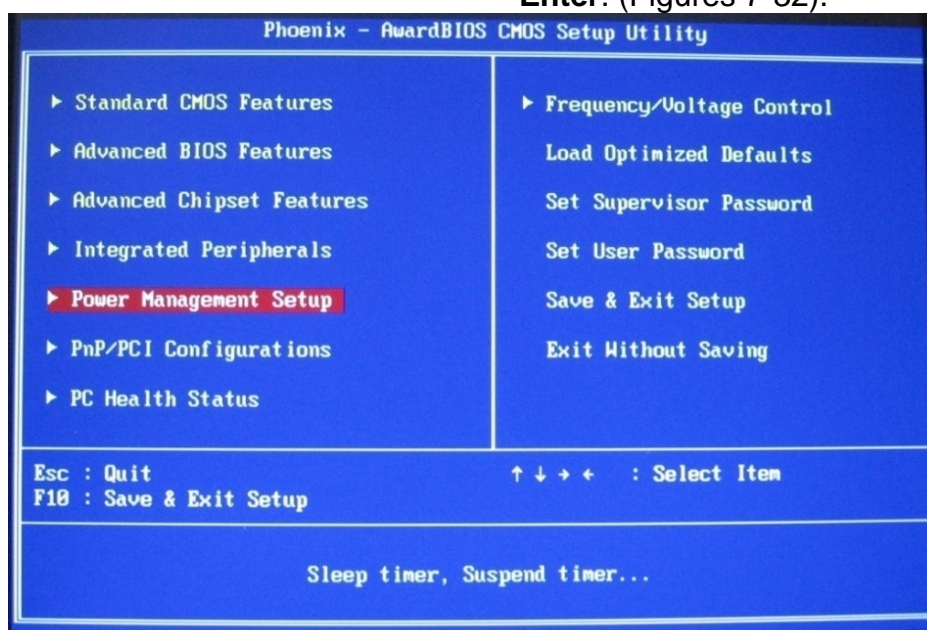

Figure 7-32 Power Management Setup
22. On the **Main BIOS Utility** page. Select **Power Management Setup**, Press **Enter**. (Figures 7-32).